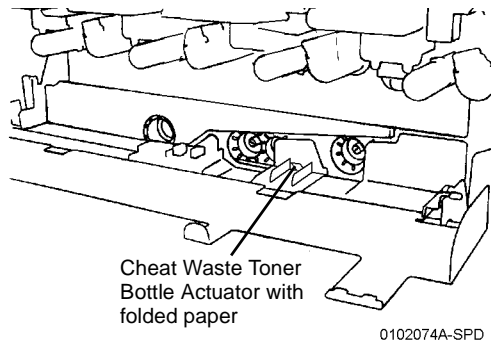

Figure 2 Cheating Waste Toner Bottle Actuator
3. Cheat Waste Toner Bottle Actuator (Figure 2)